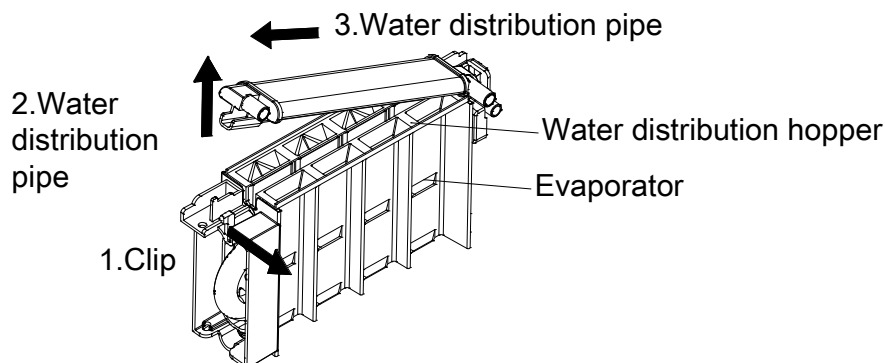

Figure 3
4. Press the "clip" on the side of the "water distribution pipe" backward, then pull the "water distribution pipe" upward, and then take out the "water distribution pipe" obliquely upward. At the same time, the water distribution hopper can be taken out, as shown in Figure 3.